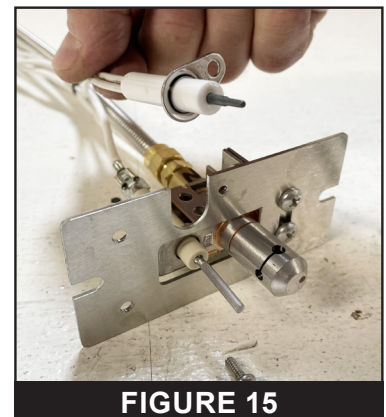

FIGURE 15
7. Remove the mounting screw securing the Igniter and remove the damaged igniter. See **FIGURE 15**.